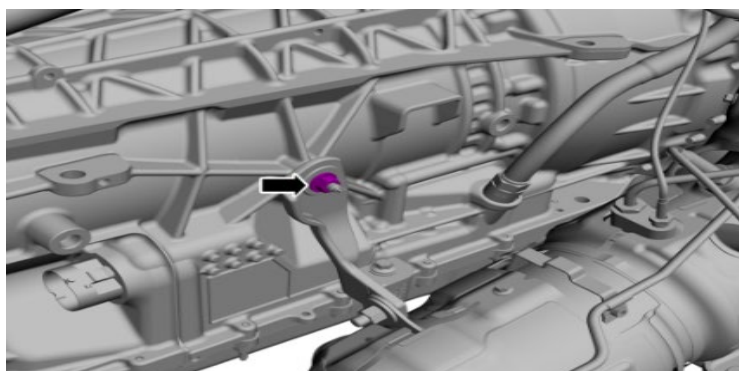

FIGURE 18
18. Torque the DPF rear mounting bracket nut. Refer figure 18 Torque: 25 +/- 3.8 Nm